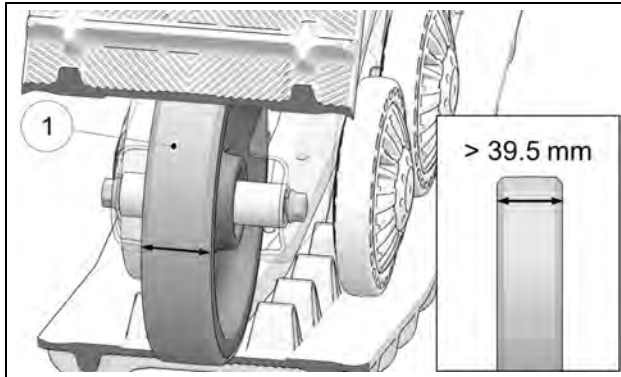

Figure 39
Verify wear on contact band (1) of 200-mm Wheels. The wheel must be replaced if the surface is worn out, cracked or has holes in it. A wheel that is excessively worn will not offer enough support for track guidance. Track guides may also wear prematurely. Figure 39.
Verify wear on guidance strips on both sides of 200-mm wheels. Replace wheel if it narrows to a width of 39.5 mm or less (42.5 mm when new). A wheel that is excessively worn will not offer enough support for track guidance. Figure 39.